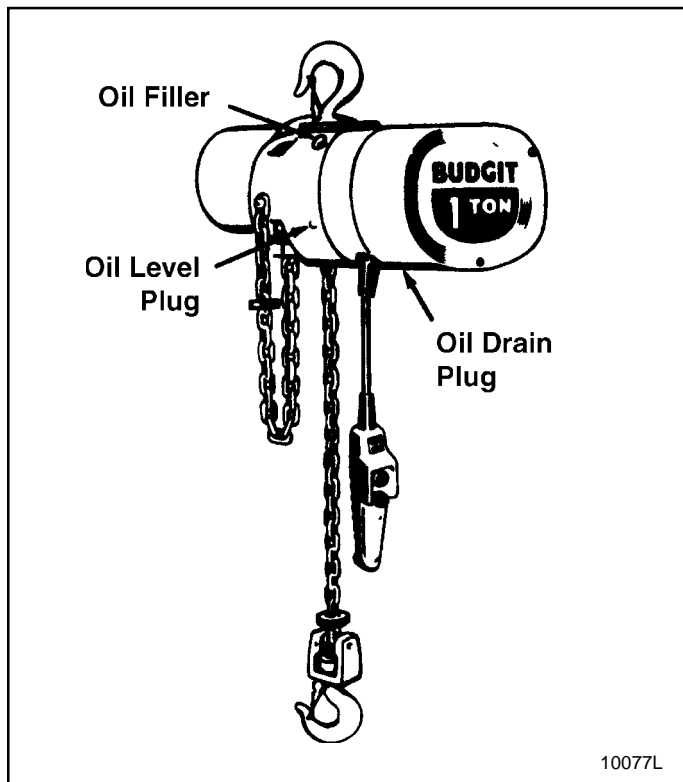

Figure 4-1. Location of Oil Filler and Plugs
4-2. CHANGE GEAR CASE OIL (Fig. 4-1).
(1) Check to see that bolts securing motor to frame are tight. Also check for any visible damage to motor, such as a cracked end bell or dented stator housing. Replace damaged parts.
(2) Check hoist frame for signs of visible damage. If frame shows evidence of fracture, the hoist should be disassembled and inspected for further signs of damage from possible overloading. Replace damaged parts. Also check condition of limit lever.
(3) Check for possible damage to electrical compartment cover. Be sure screws holding cover are tight.
**e. Check Oil Level.** Remove oil level plug (fig. 4-1). If oil level is not even with bottom of tapped hole, add Automatic Transmission Fluid, DEXRON Type, to bring to proper level.